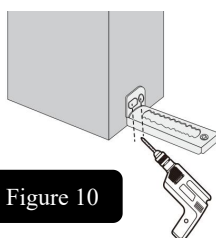

Figure 11
- **Step 3:** Fasten jamb bracket to jamb using long screws as shown (Figure 11).